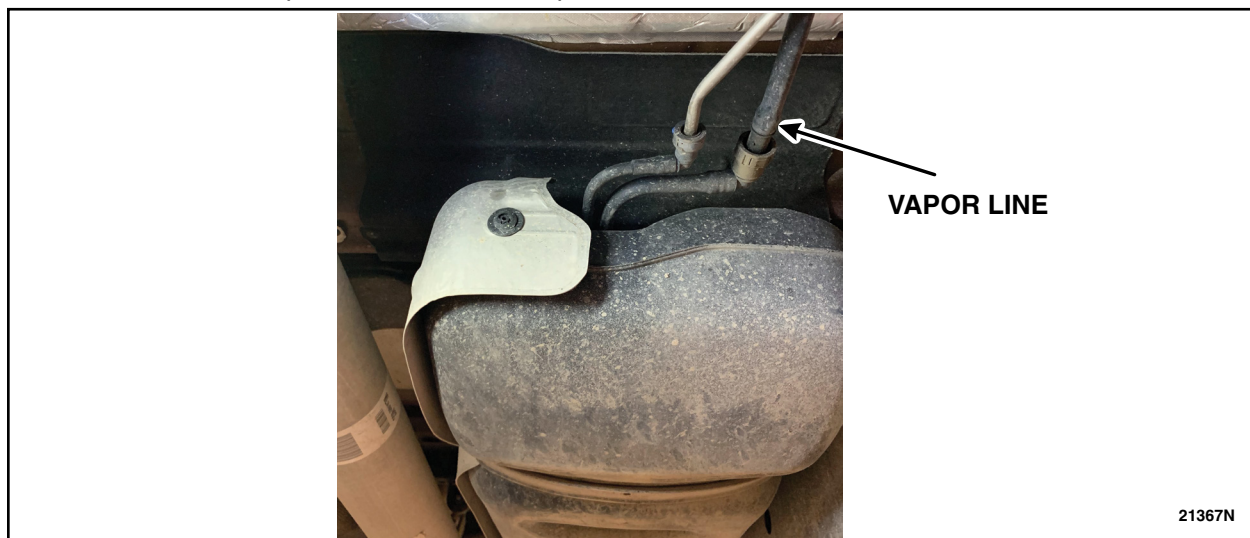

FIGURE 5
7. Inspect the vapor line for any damage caused by the driver side insulator. Is there any damage to the line? See Figures 5 through 7.